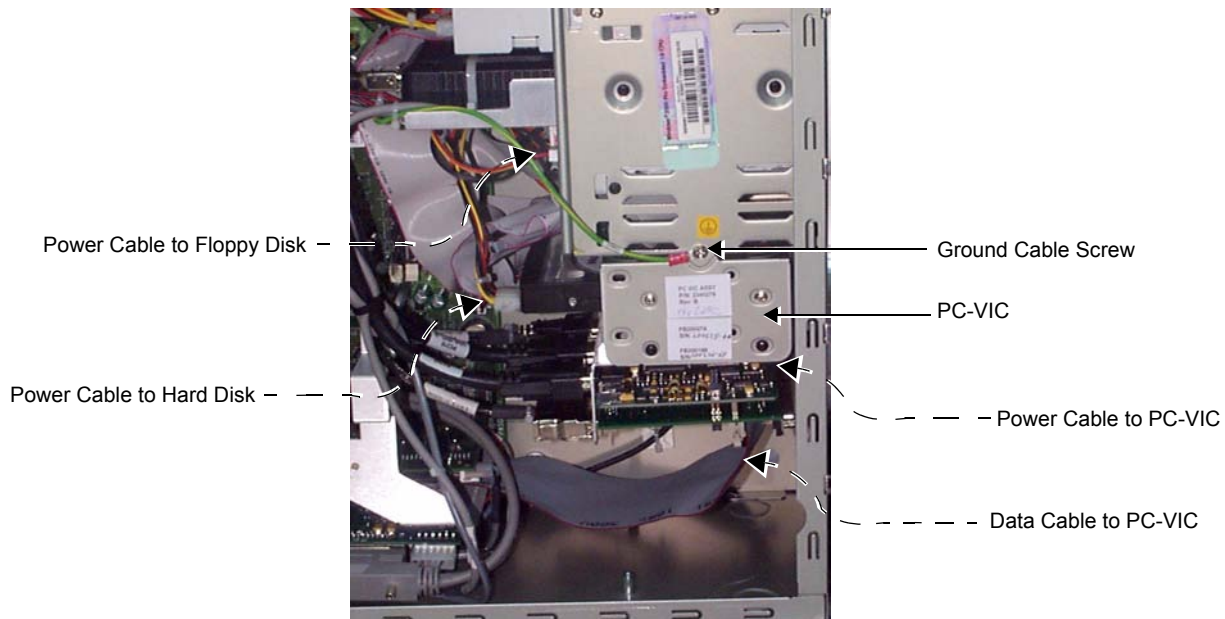

Figure 8-80 Disconnecting Cables
- 13.) Remove the screw that fastens the Ground cable and PC-VIC in position, as shown in Figure 8-80 below.
- 14.) Disconnect the power cable from the Hard Disk (labelled [4] in Figure 8-79); refer also to Figure 8-80.
- 15.) Disconnect the data cable from the PC-VIC (refer to Figure 8-80, above).
- 16.) Slide the PC-VIC & hard disk out sufficiently to be able to cut any cable ties and disconnect the power cable (labelled [5] in Figure 8-79) from the PC-VIC; refer also to Figure 8-80, above.
- 17.) Disconnect the power cable from the Floppy Disk (labelled [6] in Figure 8-79); refer also to Figure 8-80, above.
- 10.) Return the Ground cable and screw that fastens the PC-VIC in position, as shown in Figure 8-80 on page 8-92.